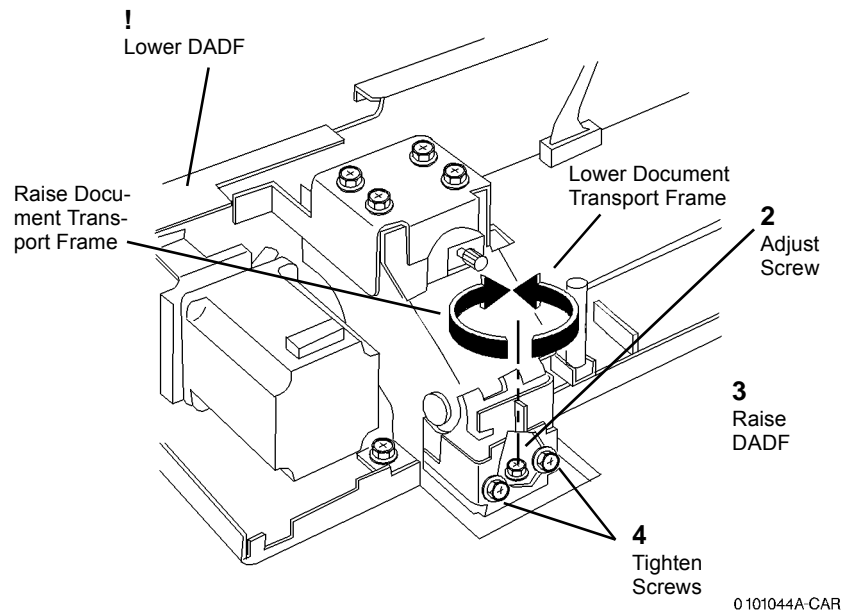

Figure 3 Adjusting Document Transport Height
3. Adjust Document Transport Height (Figure 3).